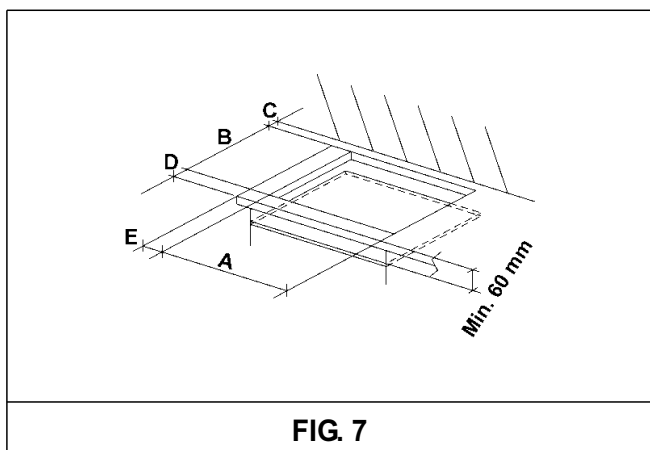

FIG. 7
The measurements of the opening made in the top of the modular cabinet and into which the hot plate will be installed are indicated in either fig. 7. Always comply with the measurements given for the hole into which the appliance will be recessed (see fig. 7 and 8).
- In order to avoid accidental touch with the overheating bottom of the hob, during the working, is necessary to put a wooden insert, fixed by screws, at a minimum distance of 60 mm from the top (see fig. 7).